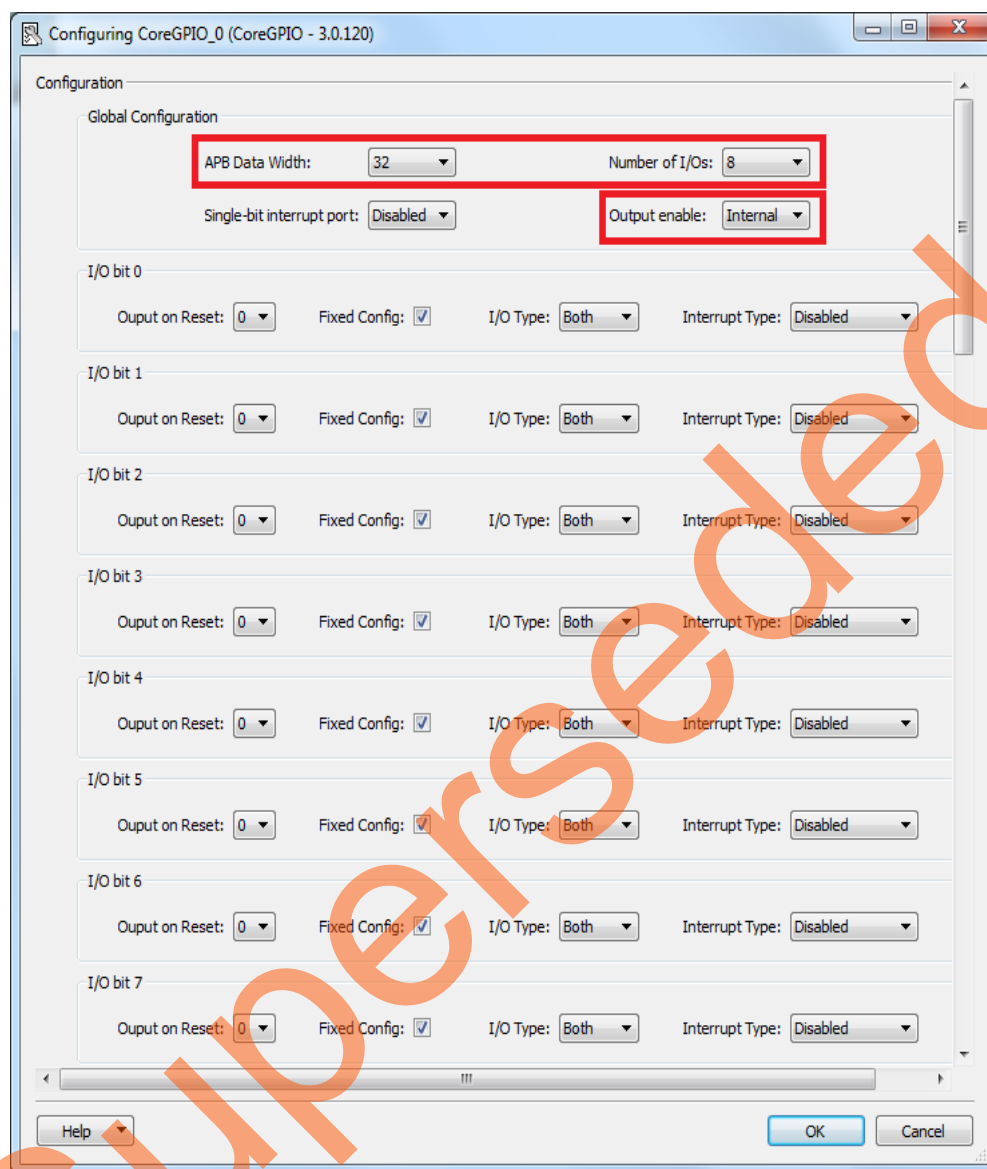

Figure 21 • Configuring CoreGPIO_0
2. Double-click **CoreGPIO** to configure it. Figure 21 shows **Configuring CoreGPIO_0** window.